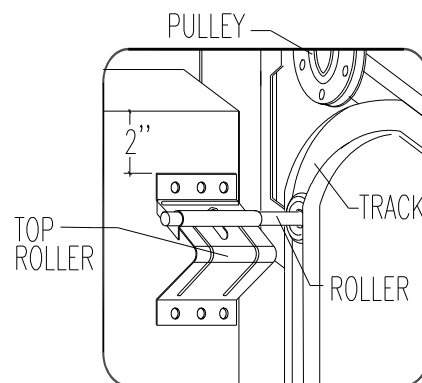

Figure 7
- Install and adjust the top roller carriers in such a way that the door will be parallel to the frame, on the whole door width (figure 7).